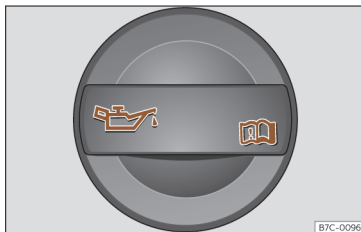

Fig. 201 In the engine compartment: Engine oil filler cap.
- Unscrew cap from engine oil filler opening >>> **Fig. 201**.